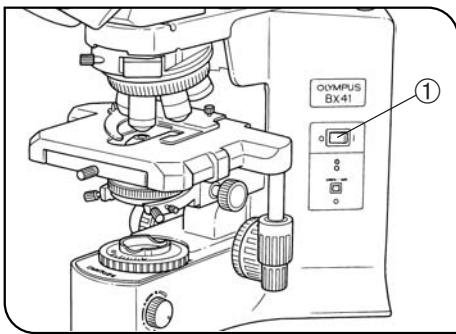

Fig. 1
(Fig. 1)
4. To avoid potential shock hazards and burns when replacing the light bulb, set the main switch ① to “○” (OFF) then disconnect the power cord from the wall outlet in advance. Whenever you replace the bulb during use or right after use, allow the lamp socket ② and bulb to cool before touching. (Figs. 1 & 2)